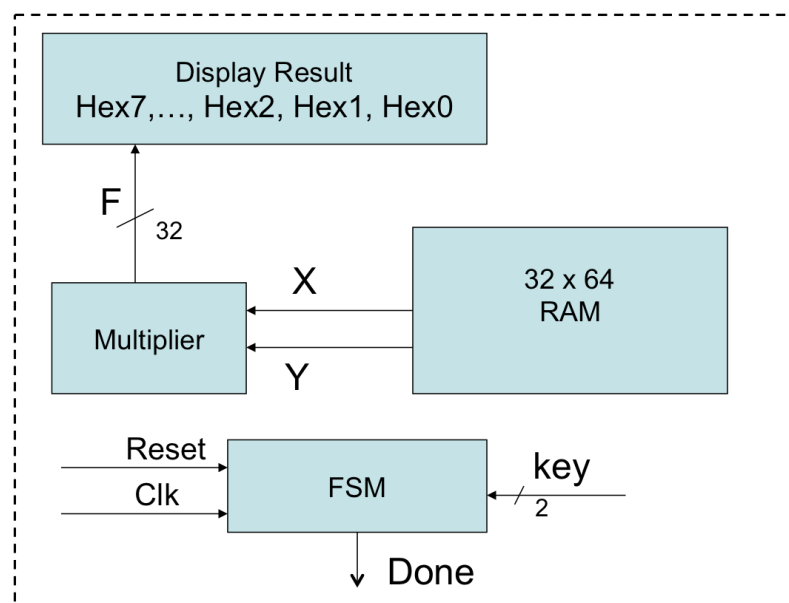

Figure 3 - System Level Architecture of the Design
1. The top-level architecture of your design should be as shown in Figure 3. The RAM has 32 words 64-bit words that serve as inputs